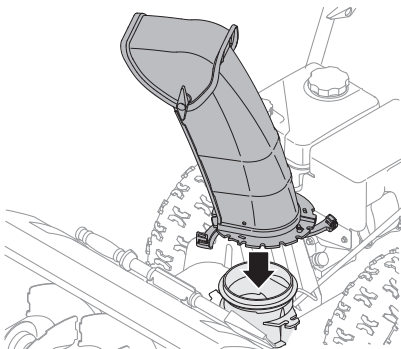

Figure 2-15
1. Position chute assembly over base. See Figure 2-15.